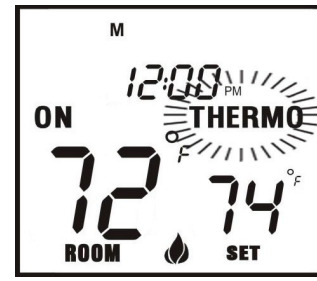

Fig. 10. Thermo Mode
- Step 2:** Press the MODE button a second time to put the system in **THERMO** mode (See Fig. 10).